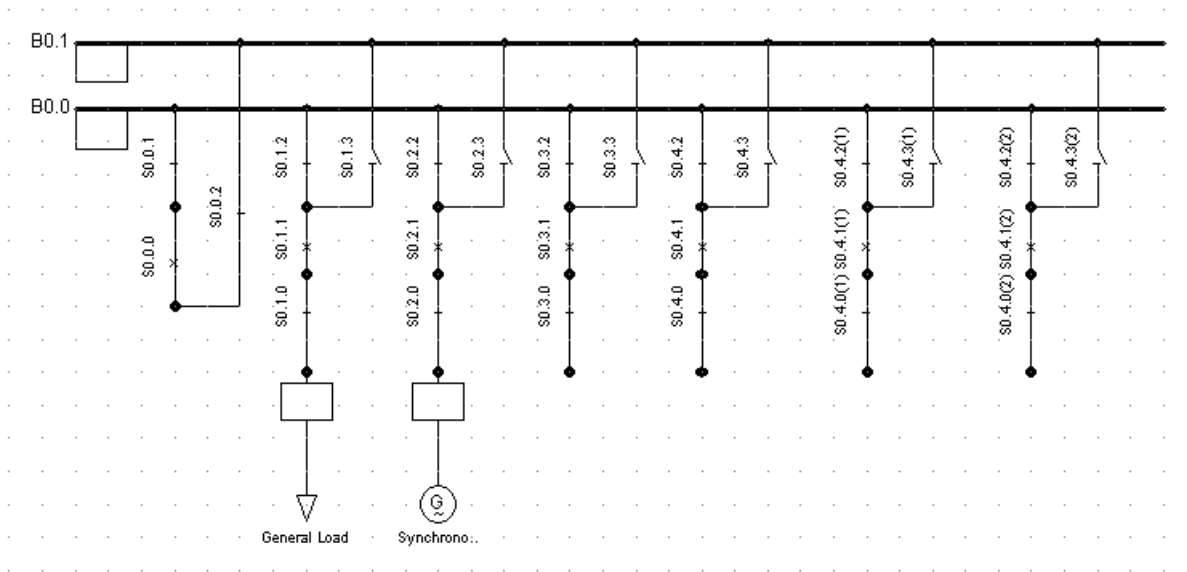

Fig. F.3: Double busbar system with two new cubicles
- ▶ Repeat the last two steps to create and connect another breaker system with the busbar system. The detailed graphic should look similar to figure F.3 now.